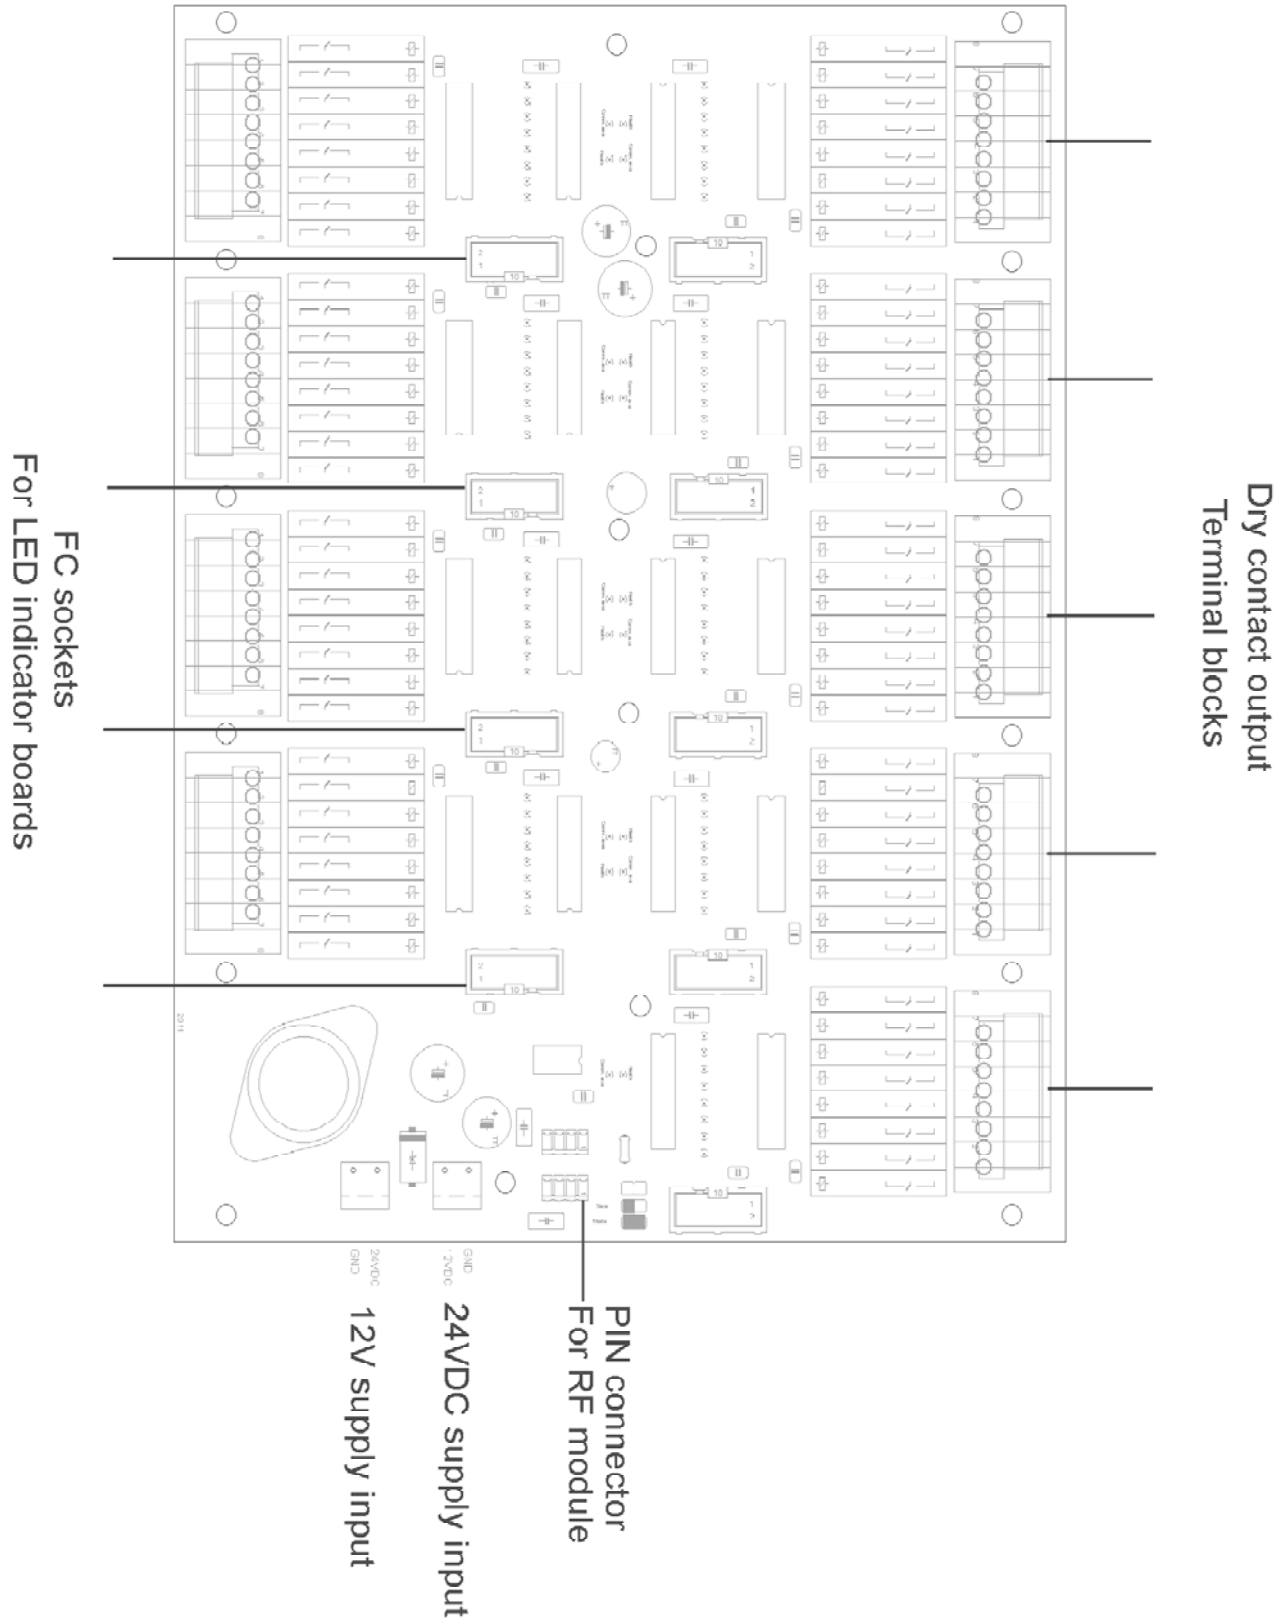

FIGURE 1
Receiver (figure 1)
- f) Connect 5VDC for supply and 24 VDC to supply relay circuits as shown in figure 1, connect FC socket to LED board as shown in figure 1